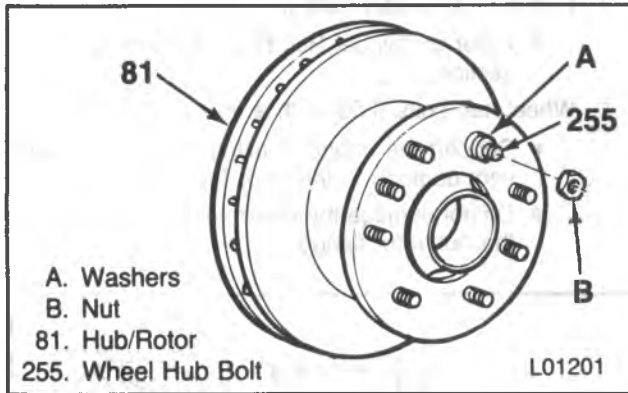

Figure 56 — Installing the Hub Bolts
↔ Install or Connect (Figure 56)
1. New serrated bolt (255) into the hole in the hub/rotor.
- Place four washers onto the bolt, then fasten a nut onto the bolt until the nut bottoms on the washers (figure 56).